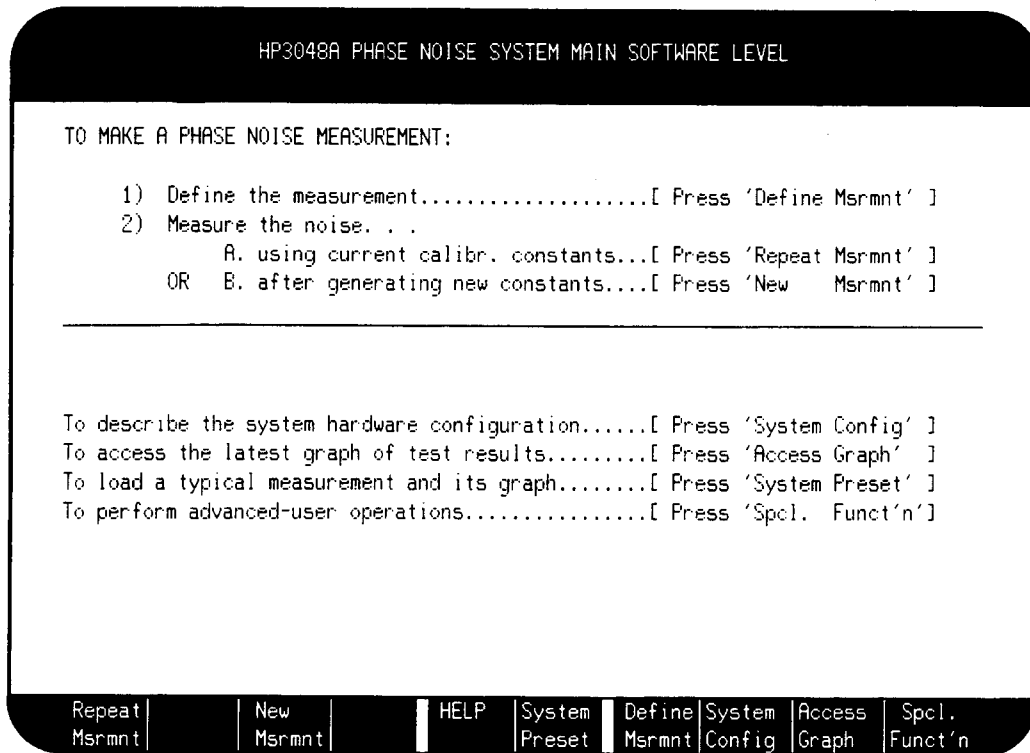

Figure 3-5. Main Software Level Menu
4. Set the HP 3048A to the Main Software Level menu. Refer to figure 3-5.